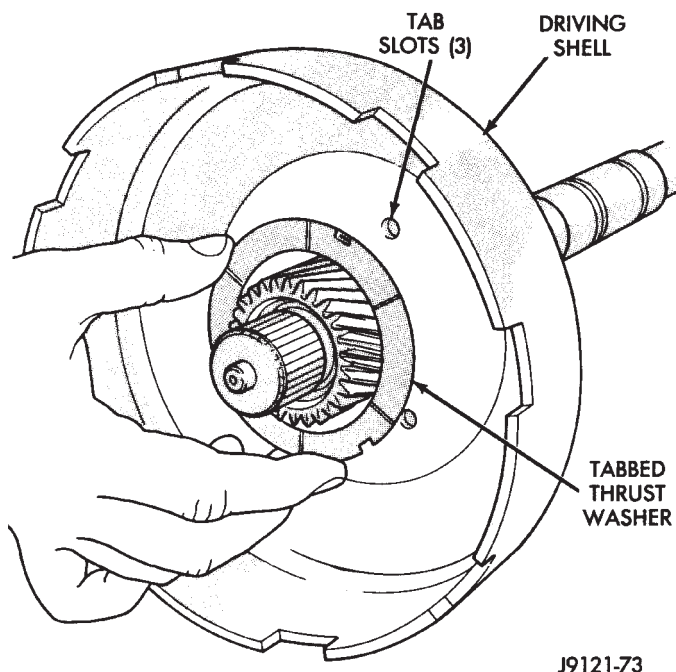

Fig. 185 Installing Driving Shell Thrust Washer
(9) Install tabbed thrust washer in driving shell (Fig. 185), be sure washer tabs are seated in tab slots of driving shell. Use extra petroleum jelly to hold washer in place if desired.